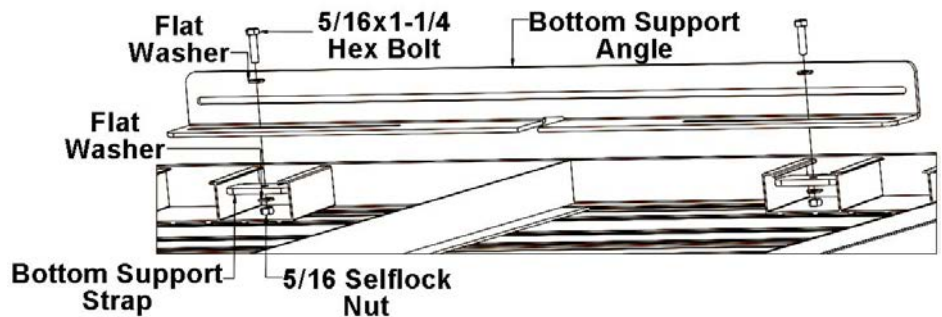

Fig.3.17
3.7.1 Platform Long Leg Support Angle: Install the bottom support angle before the platform handrail and legs are assembled. Set platform out upside down. Center one support angle to each of the four sides. Keeping the angles approximately 1 1/2" from the outside edge of the platform, face the side with the center notch against the platform plank, and the flat side of the angle to the outside of the platform. Place the bottom support straps in between the ribs of plank closest to both ends of bottom support angle, running a 5/16x1 1/4 hex bolt through the hole of the bottom support strap and the bottom support angle with a flat washer on both sides pinching the plank between the bottom support angle and bottom support strap (**Fig.3.17**). Return to **Section 3.1** on page 13 to install the platform handrail and legs.